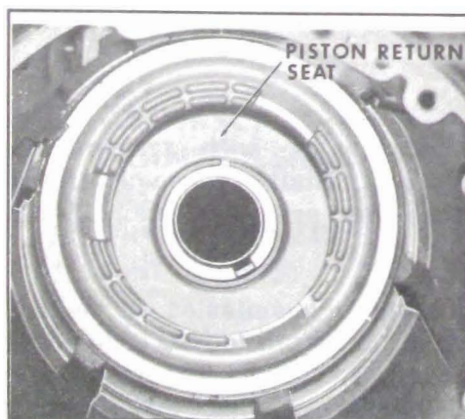

Figure 5-291
5. Position piston return seat on piston return springs. Place snap ring on return seat so that ring may be easily installed when seat is compressed with tool. See Figure 5-291.